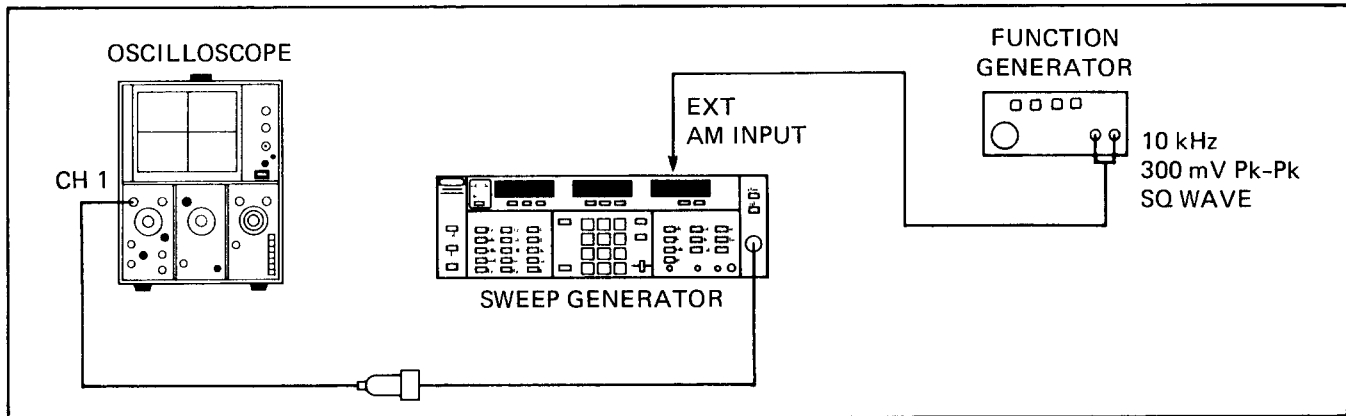

Figure 5-37. Test Equipment Setup for Making ALC Loop Bandwidth Adjustments
1. Set up the test equipment as shown in Figure 5-37, and turn the equipment on.